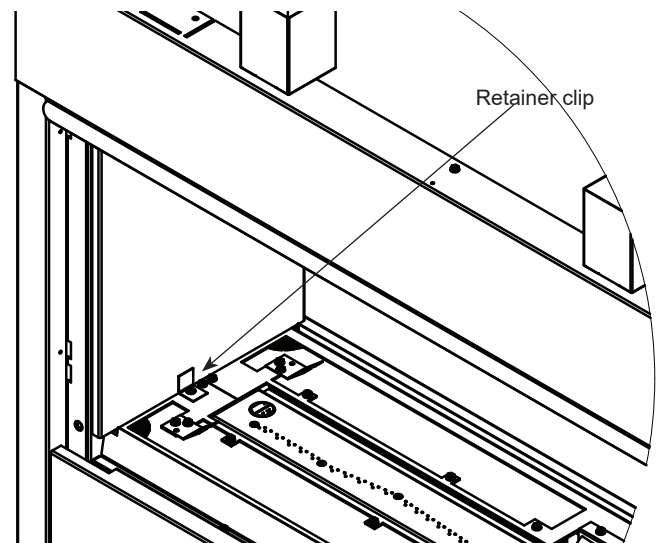

Figure 38. Porcelain Panel Retainer Clip Location
4. Remove single retainer clip at base of panel. See Figure 38